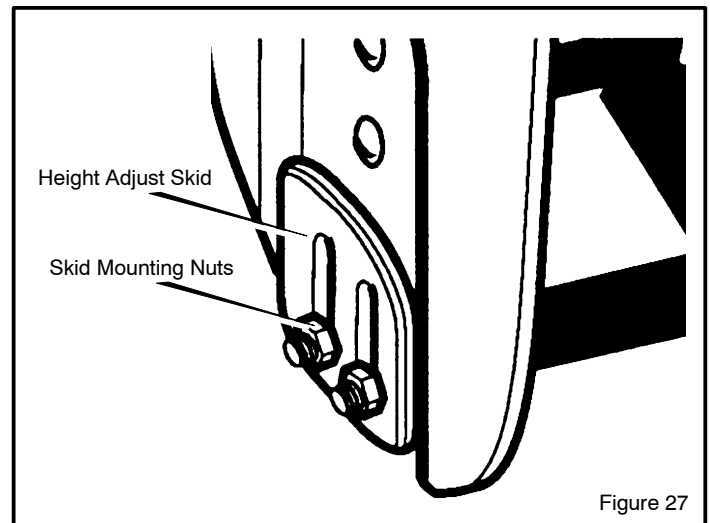

Figure 27
2. Loosen skid mounting nuts (Figure 27) and push the skid down until it touches the ground. Retighten mounting nuts.